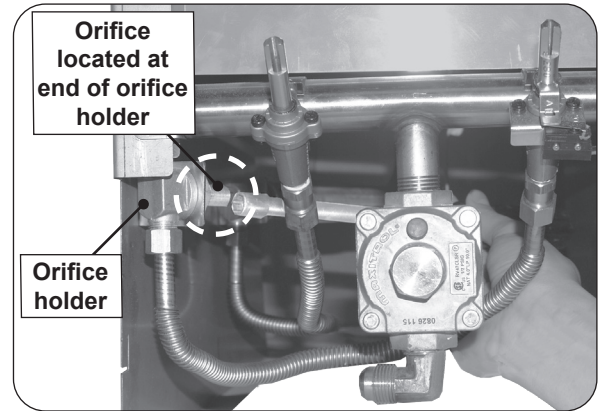

Fig. 41-1 Orifice locations
4. Using a $\frac{3}{8}$ " socket nut driver, remove the orifice from the orifice holder (see Fig. 41-1) and check the number stamped on the orifice face.